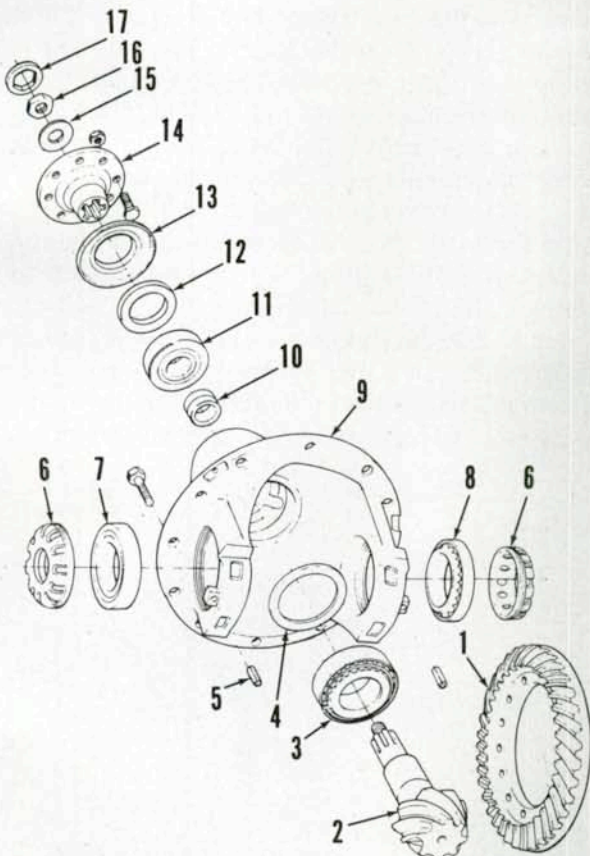
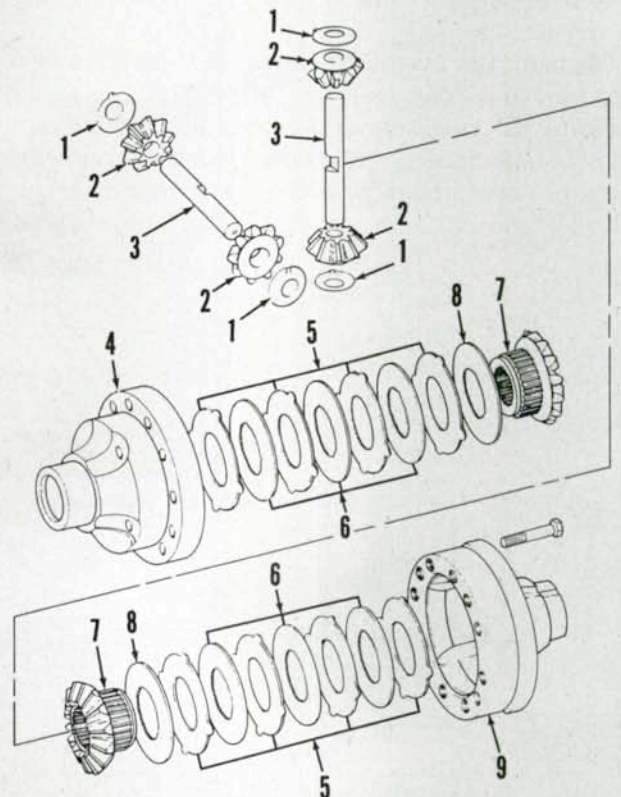
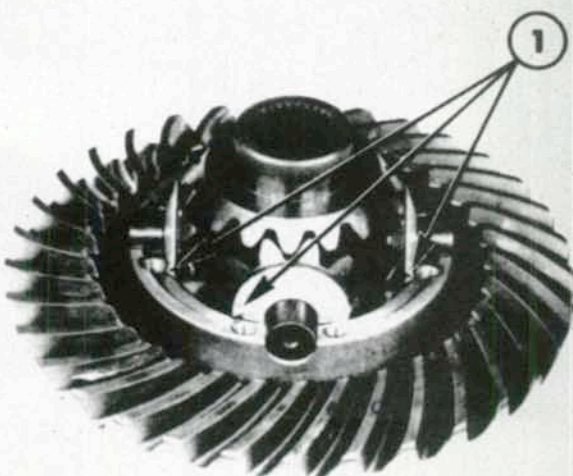

Fig. 26—Exploded view of bevel drive gear assembly for APL-3054 type front axle.
Fig. 27—Exploded view of limited slip differential assembly used in APL-3054 type axle.
Fig. 30—Projections (1) on thrust washers must mate with differential case half as shown.
**21. OVERHAUL.** Mount differential housing (9—Fig. 26) in a vise and loosen twelve cap screws that retain bevel ring gear (1) to differential case half (9—Fig. 27). Drive out roll pins (5—Fig. 26) that lock adjusting nuts (6), then unscrew and remove adjusting nuts and bearing cups (7 and 8). Note that differential components must be disassembled in differential housing and cannot be removed as a unit assembly. Remove ring gear retaining screws, then reposition housing so pinion shaft is horizontal. Separate differential case halves (4 and 9—Fig. 27) and remove both pinion shafts (3), pinion gears (2) and thrust washers (1). Remove two case halves (4 and 9) from differential housing separately. Separate bevel ring gear (1—Fig. 26) from differential case half. If necessary, remove bearing cones from differential case halves.
**22. REASSEMBLY AND ADJUSTMENT.** If housing, bearings, differential case or ring and pinion gears have been renewed, then the following shimming procedure must be followed to determine pinion bearing shim (4—Fig. 26) thickness.
Measure the overall thickness of the pinion bearing cup and cone assembly (3—Fig. 26), then add bearing thickness dimension to pinion setting number (in millimeters) etched next to serial number on face of bevel pinion gear. Subtract the result from
previously determined dimension (x); the result is required thickness of pinion bearing shim (4—Fig. 26). Install correct thickness shim and the bearing cup into housing bore, and press bearing cone onto pinion shaft until seated against shoulder of gear.
To adjust pinion bearing preload, assemble bevel pinion (2—Fig. 26) with a new collapsible sleeve (10), bearings (3 and 11) and oil seal (12) into differential housing. Install dust shield (13), drive flange (14), washer (15) and nut (16). Tighten nut finger tight. Use a torque wrench to measure torque required to rotate pinion shaft with zero bearing preload. Then hold drive flange with a suitable tool and tighten retaining nut (16) in small increments until torque required to turn pinion shaft is 10-20 in.-lbs. (1-2 N·m) greater than initial zero preload torque reading. If desired torque reading is exceeded, bearing preload is excessive and a new collapsible sleeve (10) must be installed and bearing preload readjusted.
Bench assemble differential components (outside differential housing) as follows: Position bevel ring gear (1) onto differential case half (9—Fig. 27). Install pressure plates (8) on side gears (7) so polished side is toward gear, then assemble clutch disc plates (5 and 6) alternately on side gears. Refer to Fig. 27 for proper clutch pack assembly sequence. Install side gear and clutch components into differential case halves (4 and 9). Install bevel pinion gears (2), thrust washers (1) and shafts (3). Mate differential halves (4 and 9), install ring gear retaining screws and tighten to a torque of 155 ft.-lbs. (210 N·m).
up and down and note movement of gage needle. Allowable free play is 0.004-0.008 inch (0.10-0.20 mm). Adjust free play by changing thickness of pressure plate (8—Fig. 27). Pressure plates are available in 2.8, 2.9 and 3.0 mm sizes. If after installation of thickest pressure plate free play remains excessive, a new set of clutch plates (5 and 6) must be installed. Repeat instructions for opposite differential case half.
Separate differential case halves for installation in differential housing (9—Fig. 26). Note that bearing (8) is wider than bearing (7) and that bearing (8) must be installed on ring gear case half (9—Fig. 27). While supporting differential housing with pinion gear in a horizontal position, install ring gear with differential case half and clutch assembly. Install opposite differential case half and clutch assembly, then while holding case half (4), install differential shafts (3) complete with bevel pinion gears (2) and thrust washers (1). Be sure projections on thrust washers mate with case half as shown in Fig. 30. Mate differential halves and install ring gear retaining screws, but do not tighten at this time. Install bearing cups (7 and 8—Fig. 26) and adjusting nuts (6). Hand tighten the adjusting nuts to eliminate any bearing free play, then tighten bevel ring gear cap screws to a torque of 155 ft.-lbs. (210 N·m).
Backlash between bevel ring gear and pinion gear should be 0.008-0.011 inch (0.20-0.28 mm) and is measured using a dial gage with gage plunger located perpendicular to a tooth of ring gear. Turn adjusting nuts (6—Fig. 26) to move ring gear toward pinion to reduce backlash, or away from pinion to increase backlash.